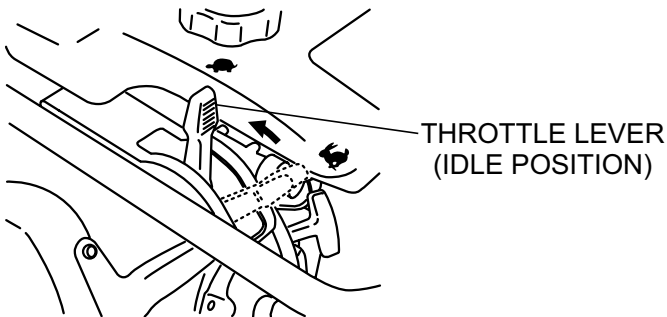
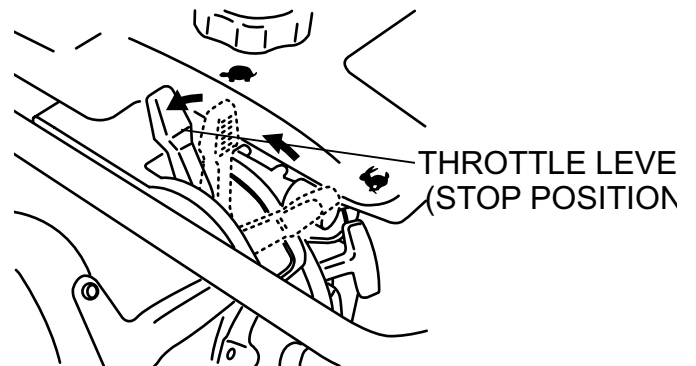

Figure 9. Throttle Lever (Idle Position)
Figure 15. Throttle Lever (Stop Position)
1. Slide the throttle lever from the stop to the idle position (☛) (Figure 9). This opens the fuel cock and the engine electrical circuit is turned on automatically.
3. To stop the tamping action, move throttle lever quickly from the **START** (☞) position to the **IDLE** (☛) position (Figure 9).
1. Move throttle lever quickly from the **START** (☞) position to the **IDLE** (☛) position (Figure 9) and run the engine for three minutes at low speed. After the engine **cools**, move the throttle lever to the **STOP** position (Figure 15). The engine will stop and the fuel cock is automatically closed.